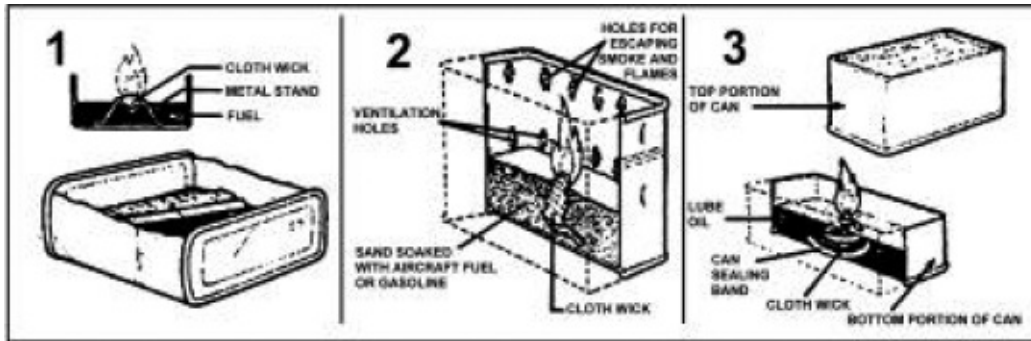

Figure 6-16. Improvised stove
- (5) Improvised stoves (Figure 6-16). These are very efficient.